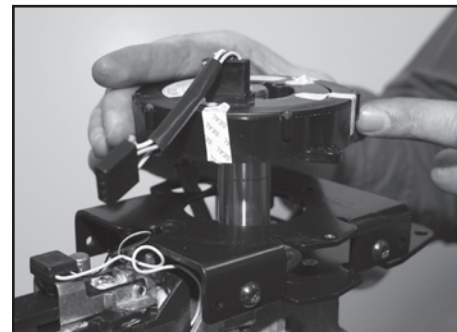

Figure 2
4. Install new clockspring. **Figure 2**